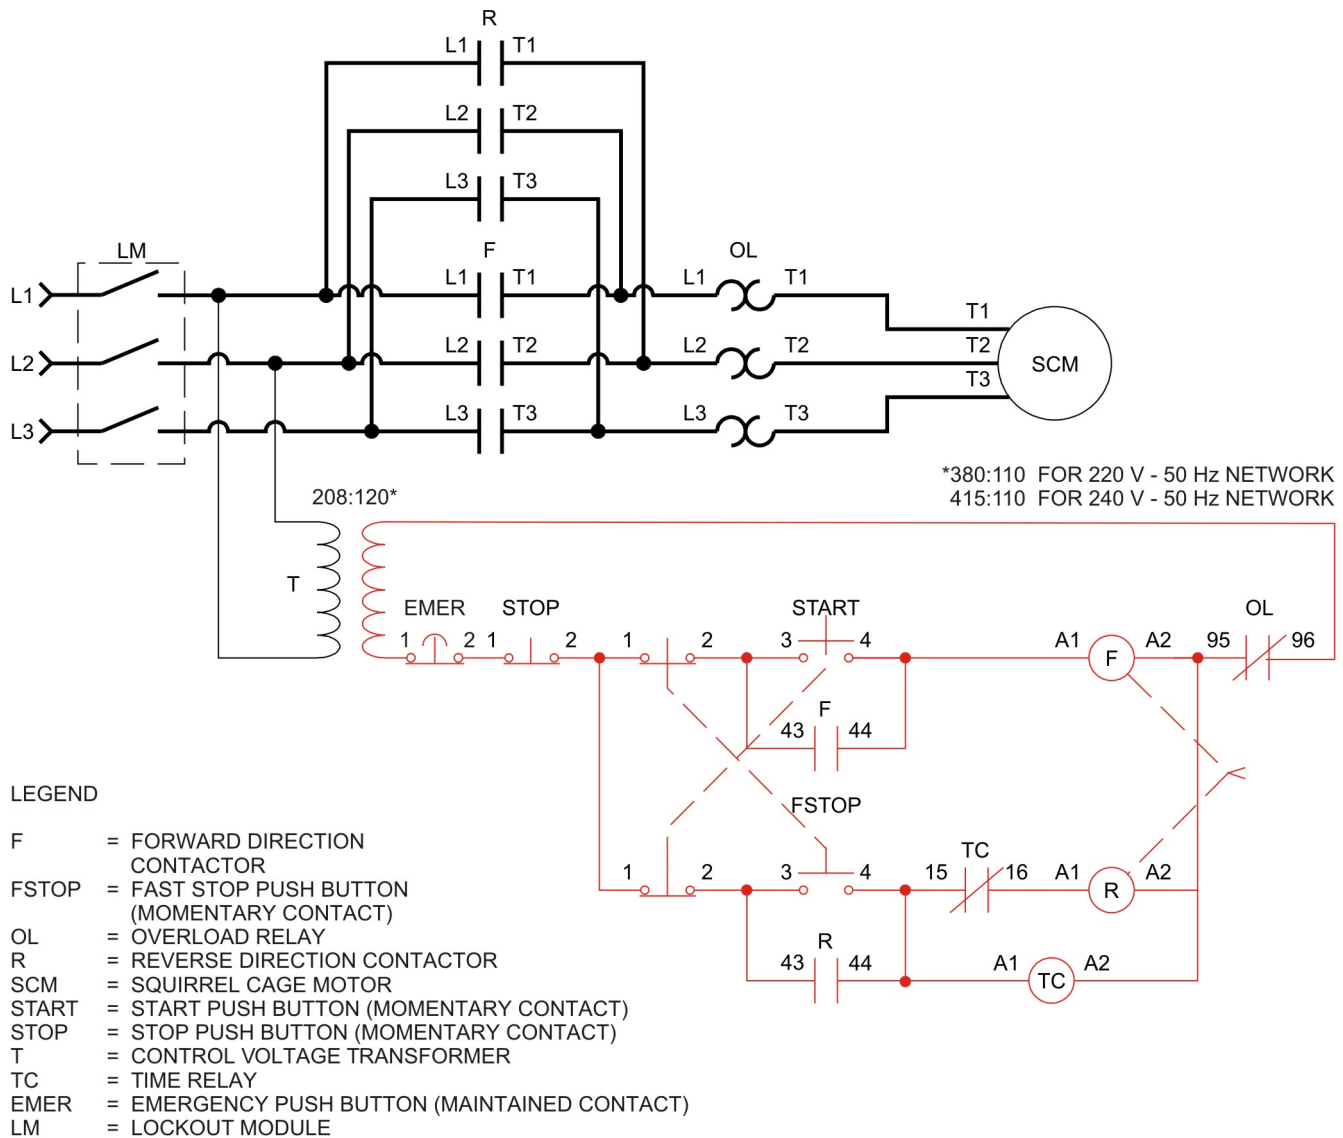

Figure 6-6. Plugging circuit with time relay.
Figure 6-6 is a plugging circuit using a time relay to stop the motor before it rotates backwards. To make the motor turn in the forward direction, the START push button is pressed. The STOP push button makes the motor coast to a stop. The FSTOP (fast stop) push button opens the forward contactor and activates the reverse contactor, making the motor stop rapidly. The *On-delay* function of the time relay opens the reverse contactor a preset time  $t$  after the forward contactor is de-energized. If  $t$  is chosen properly, the motor stops exactly when the reverse contactor is de-energized.
Connect the circuit shown in Figure 6-6.
2. In the Figure 6-6 circuit, what happens if time relay terminals 15 and 16 are short-circuited?
3. In the Figure 6-6 circuit, what happens when the STOP push button is pressed while the motor is running in the forward direction?
4. In the Figure 6-6 circuit, how can you keep the time relay well set, if the load increases significantly?